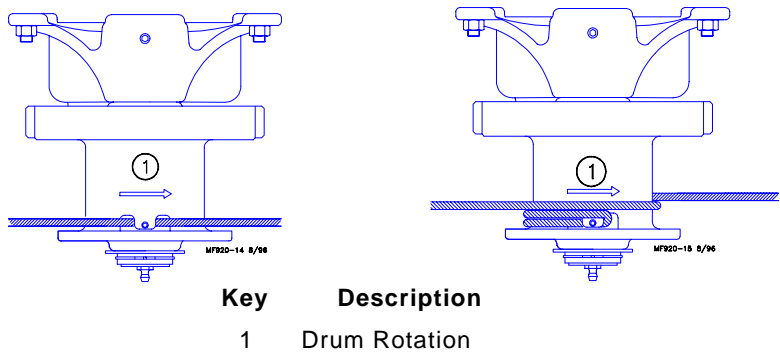

Figure 23. Cable Installation & Wrap
4. Wrap the cable through the winch drum relief located near the bottom of the drum. Tighten the set screw to anchor the cable to the drum. See Figure 23.
5. Turn the winch drum one full revolution. Guide the cable against the flange at the bottom of the winch drum. The cable must not wrap over itself on the drum, but should be wrapped as close as possible to each previous wrap. See Figure 23.